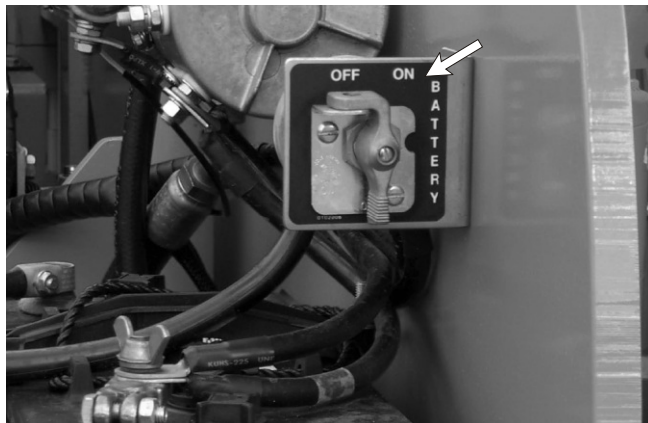

Figure 8.1—Battery Disconnect Switch
1. Place the battery disconnect switch in the on position (refer to Figure 8.1).